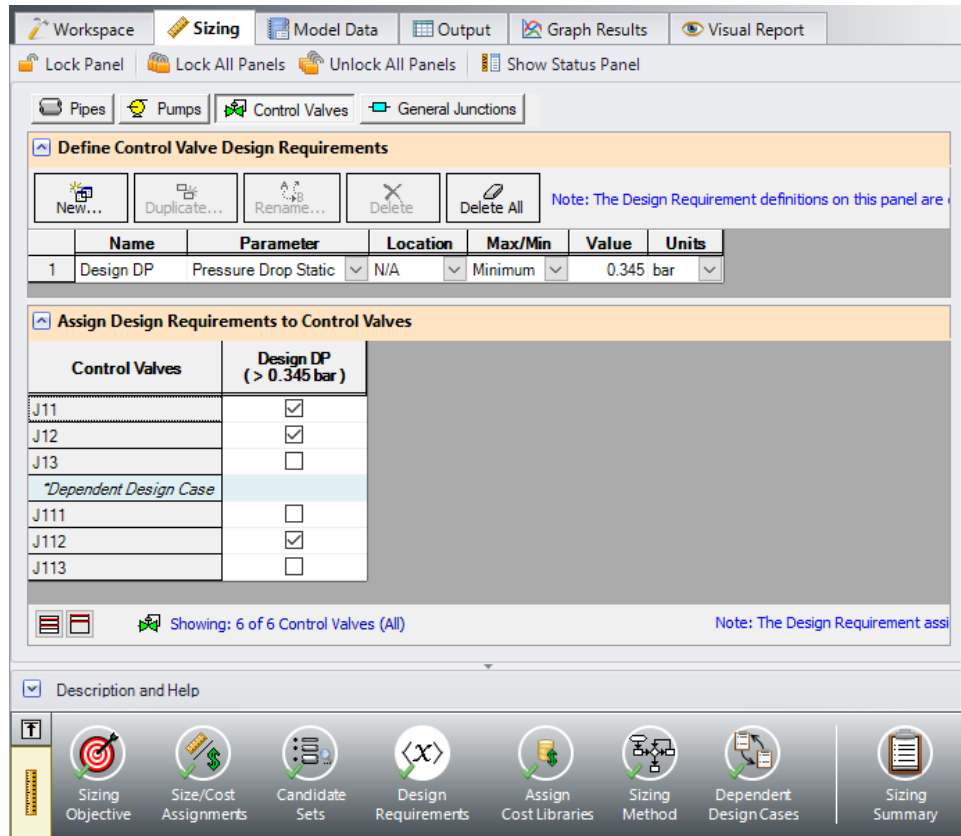

Figure 7: Control Valve Design Requirements for the dependent design case
4. Uncheck the box next to J111 to remove the pressure drop requirement from the closed control valve (Figure 7).